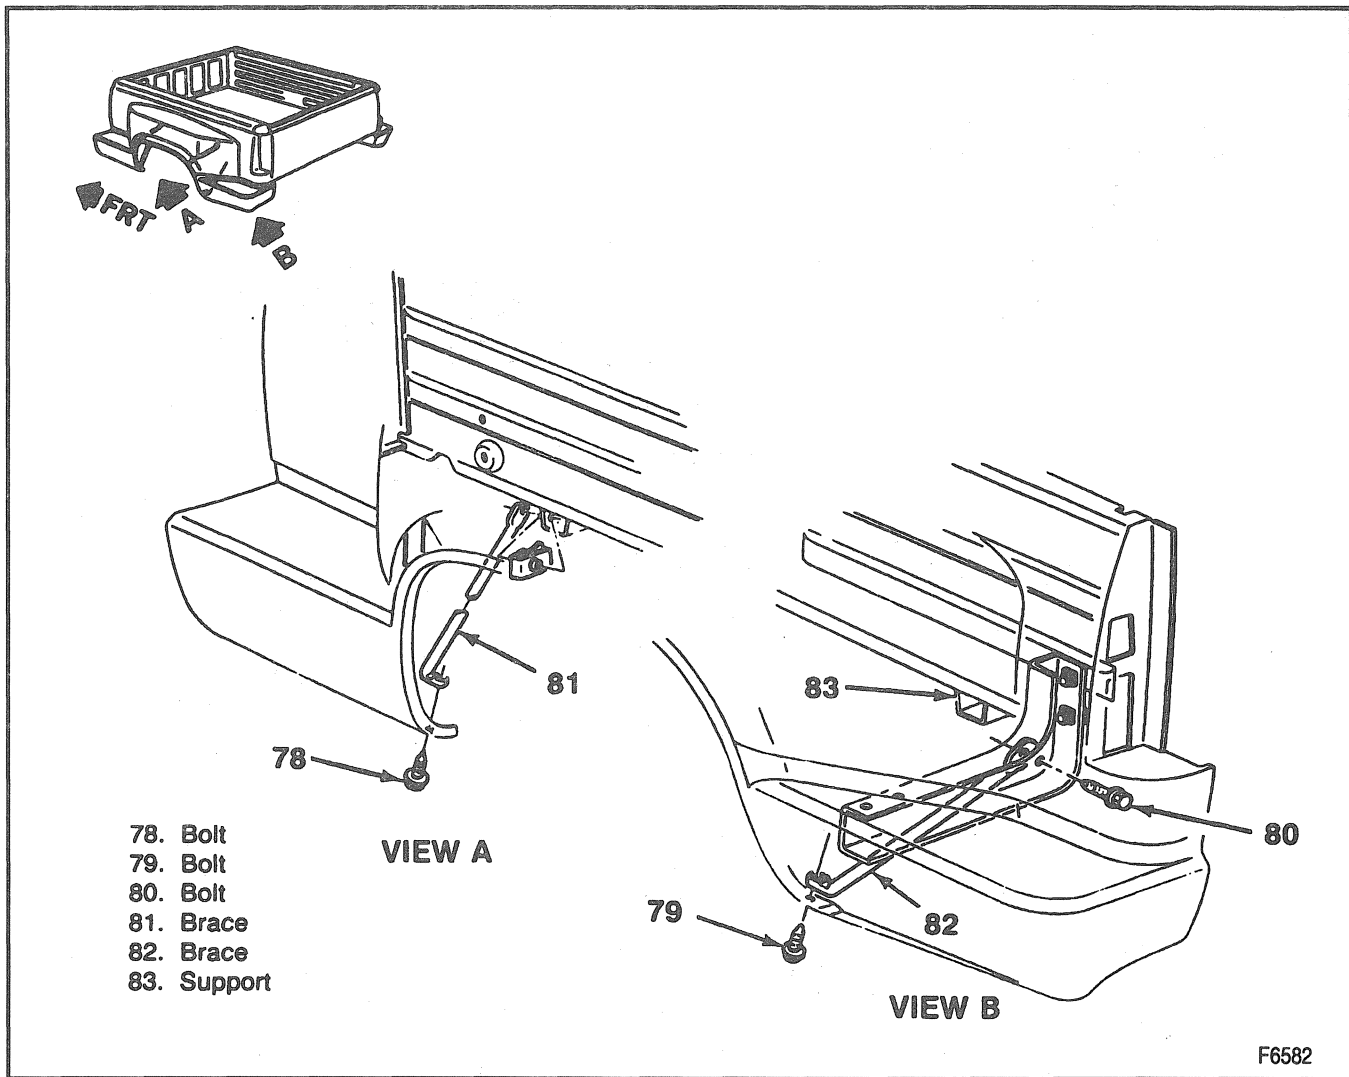

Figure 13—Fender Braces
2. Fender to brace screws (Figure 13).